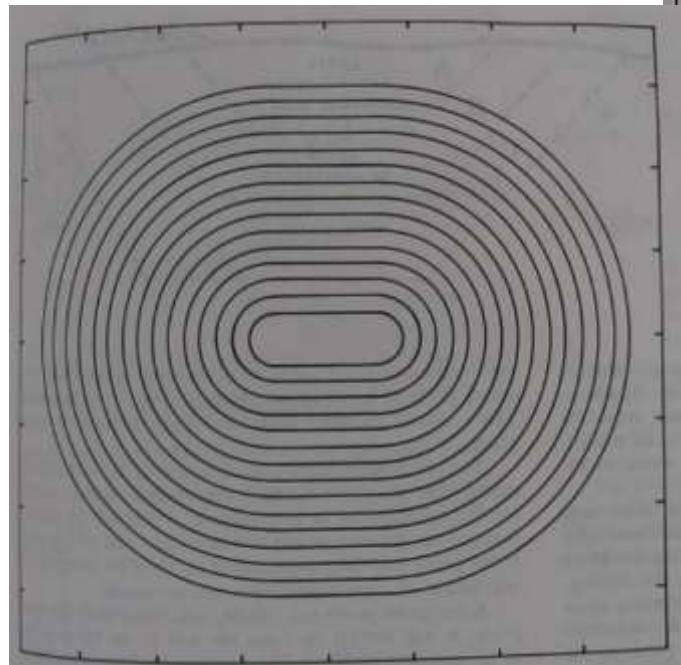

Fig.5: Pit designed with a 38° overall slope to allow for a 45° inter-ramp slope and a road system
- ❑ The pit in Fig. 5 was designed with an overall slope of 38° .
Figure 5 shows a **major instability**. The likely cause is an underlying fracture or fault. *The mine wishes to do a major pushback on this pit wall in order to gain access to more ore. This could be a challenging task.*